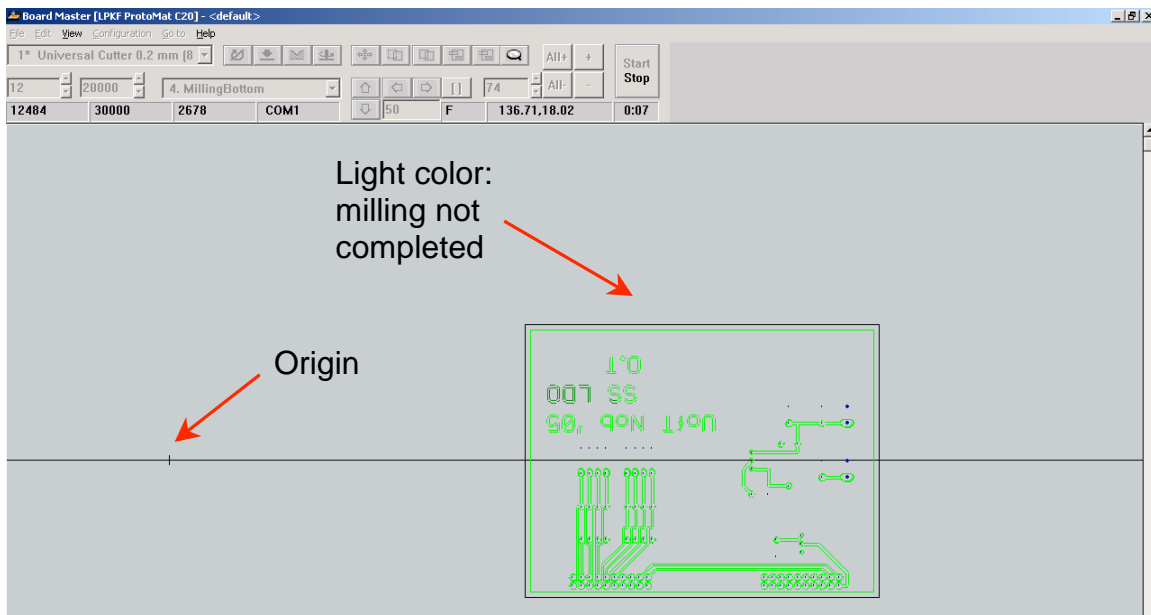

Figure 36: The milling progress is displayed in the *BoardMaster* window.
2. Check that the PCB board coordinates are as desired by manually moving the drill head to the coordinates of the edge of the PCB board as shown in Figure 36. This will tell you exactly where on the board the PCB will be milled. This is especially important for milling several PCBs in one session.
4. The drill head will be automatically controlled to mill the board. During this lengthy process, the progress will be visible on the BoardMaster window as shown in Figure 36.